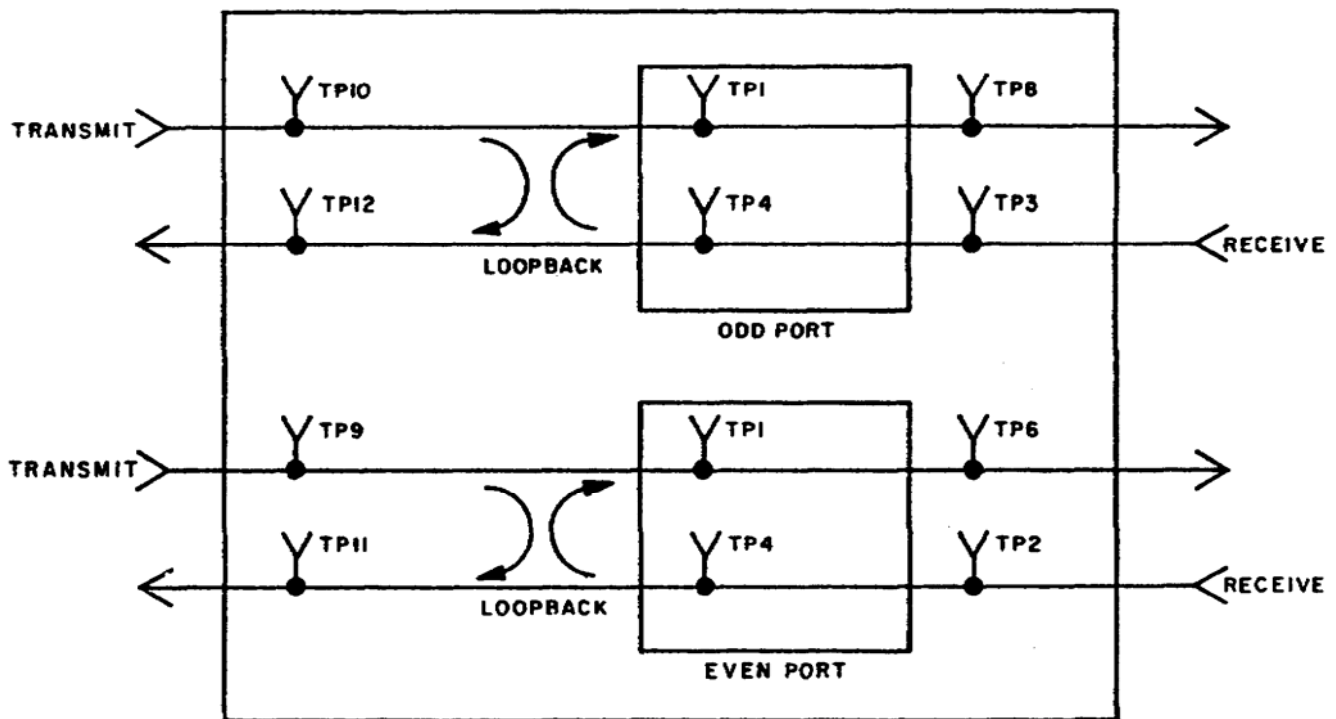

Figure 6. Data Flow, Port.
(1) Data can be looped at the local port or remote port. A local port loopback at the near end looks like a remote port loopback to the far end AN/FCC-100(V)(see figure 6). A port loopback is equivalent to placing a jumper between TP-10 and TP-12 (odd port) or TP-9 and TP-11 (even port).